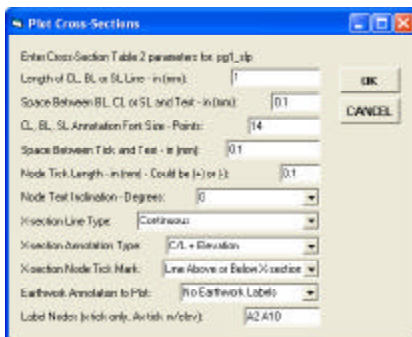

Figure 20
13. Enter the values for each of the parameters, shown in Figure 20, click at the: